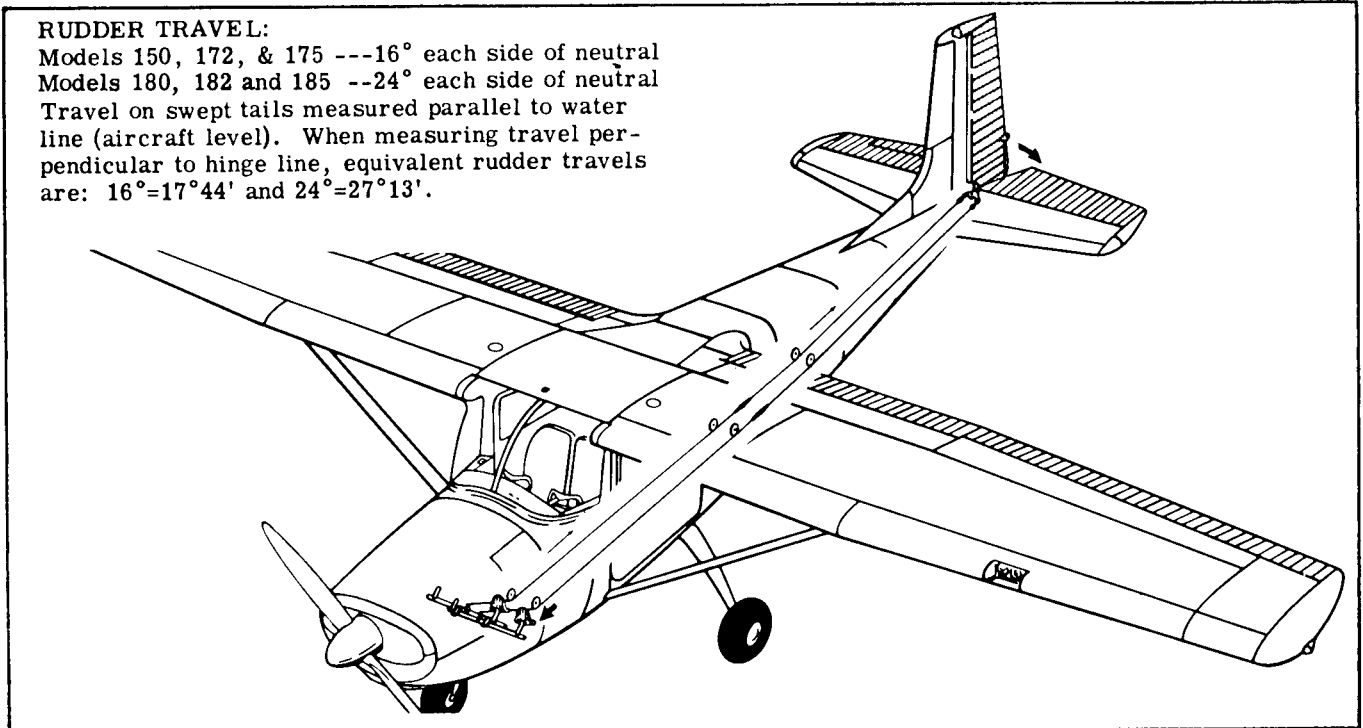

Figure 10-1. Rudder Control Schematic
- a. Adjust the rudder travel stop bolts to attain correct rudder travel as listed in figure 10-1.